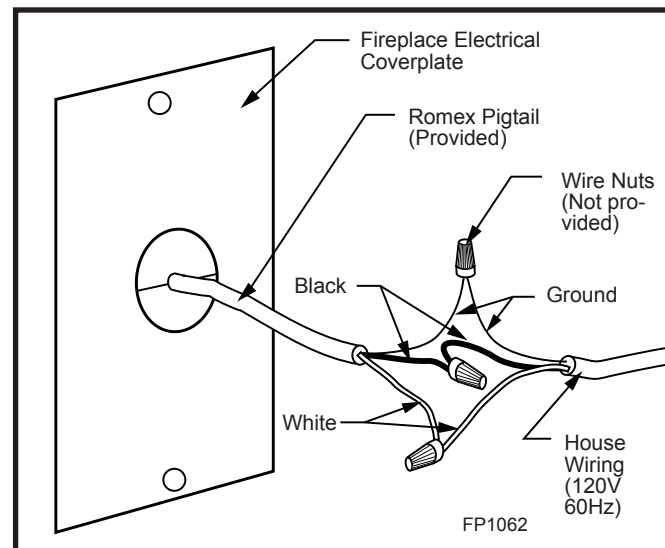

Fig. 8 Wiring diagram.
3. Attach the ground wire from house power to the ground wire of the romex pigtail and secure with a wire nut. (Fig. 8)